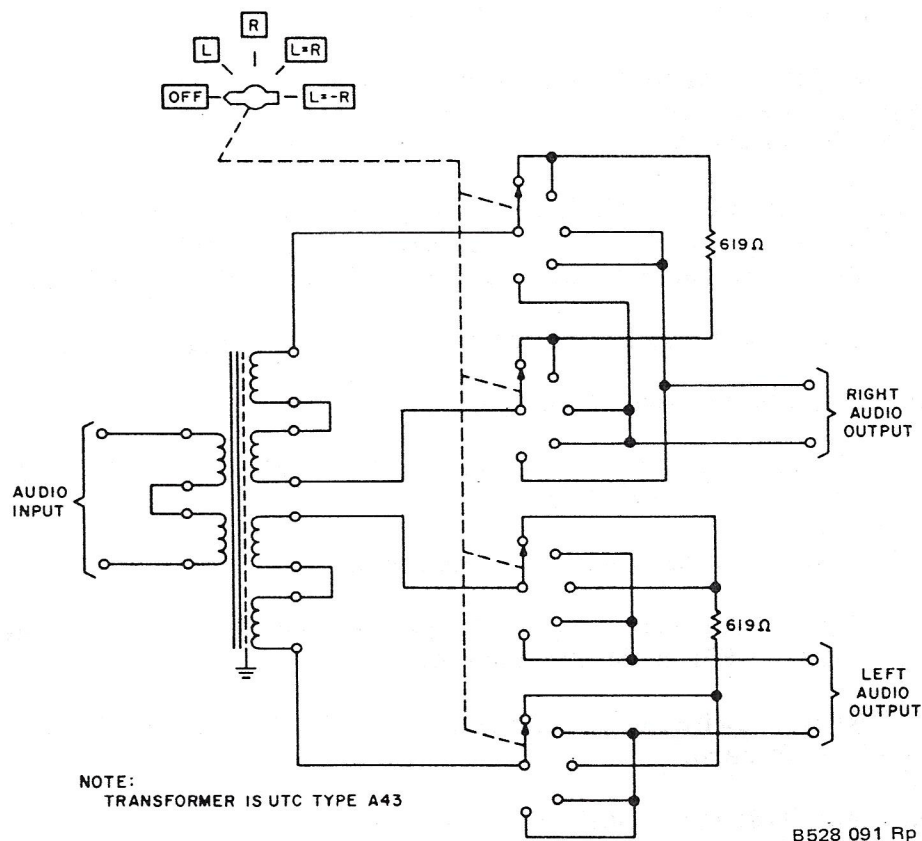

Figure 5-3. Stereo Test Circuit, Schematic Diagram.
Stereo test circuit	Fabricated per figure 5-3
- e. Turn stereo test circuit (figure 5-3) switch to L position (left modulation only).
- d. Set switch on stereo test circuit (figure 5-3) to L = R.